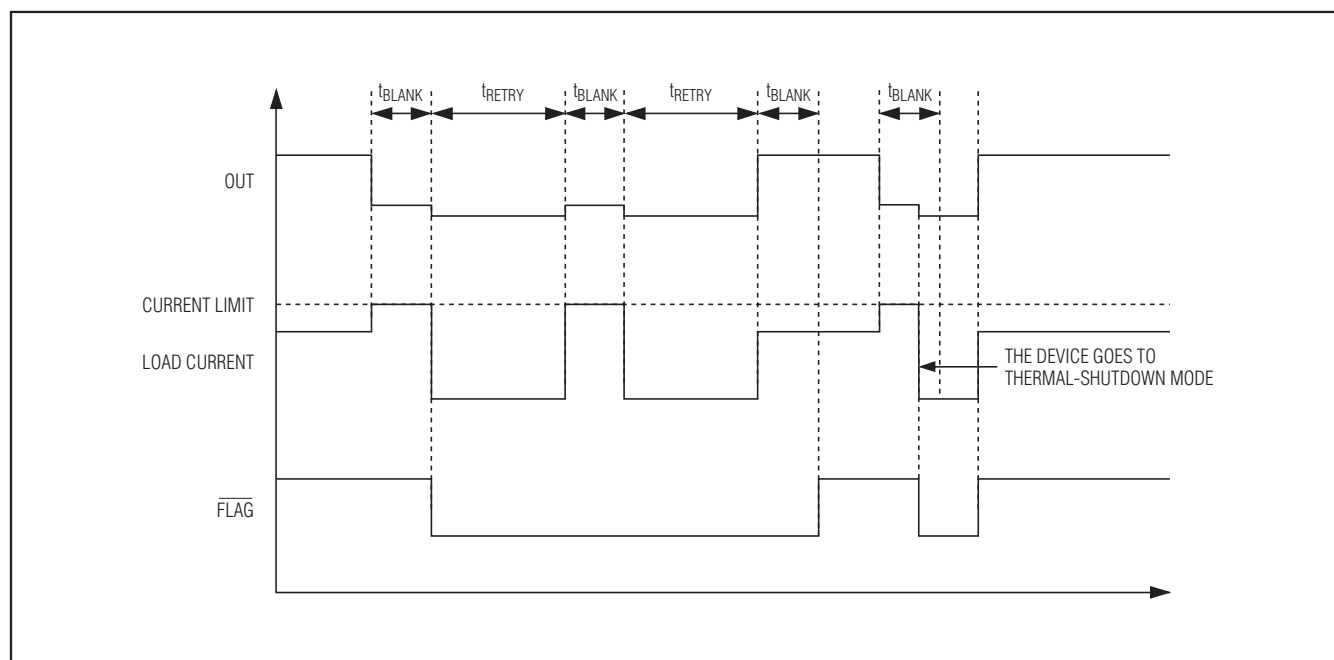

Figure 2. Autoretry Fault Diagram
**Note 3:** Blanking time and retry time are generated by the same oscillator. Therefore, the ratio of  $\frac{t_{RETRY}}{t_{BLANK}}$  is a constant value of 32. See Figures 2 and 3.
When the forward current reaches the current threshold, the  $t_{\text{BLANK}}$  timer begins counting (Figure 2).  $\overline{\text{FLAG}}$  asserts if the overcurrent condition is present for  $t_{\text{BLANK}}$  or longer. The timer resets if the overcurrent condition disappears before the blanking time ( $t_{\text{BLANK}}$ ) has elapsed. A retry time delay ( $t_{\text{RETRY}}$ ) starts immediately after the blanking time has elapsed. During that time, the switch latches off. At the end of  $t_{\text{RETRY}}$ , the switch turns on again. If the fault still exists, the cycle repeats. If the fault has been removed, the switch stays on. During this cycle,  $\overline{\text{FLAG}}$  stays low. In autoretry, if the die temperature exceeds +170°C (typ) due to self heating, the MAX14523A/MAX14523AL go into thermal shutdown until the die temperature drops by approximately 15°C (see the *Thermal Shutdown* section.)